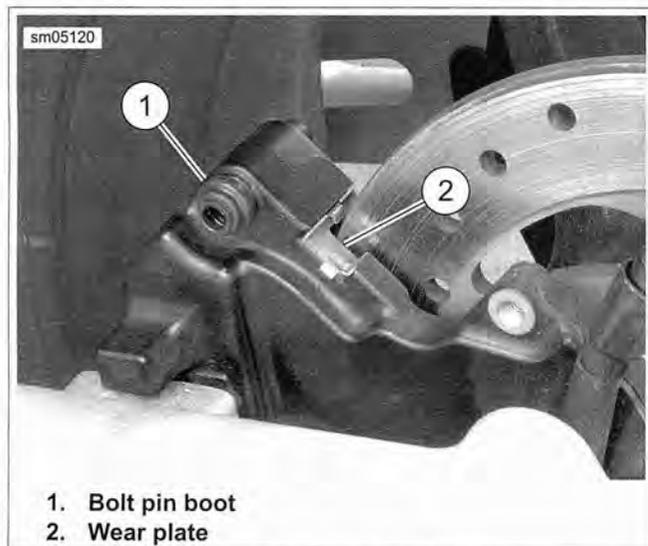
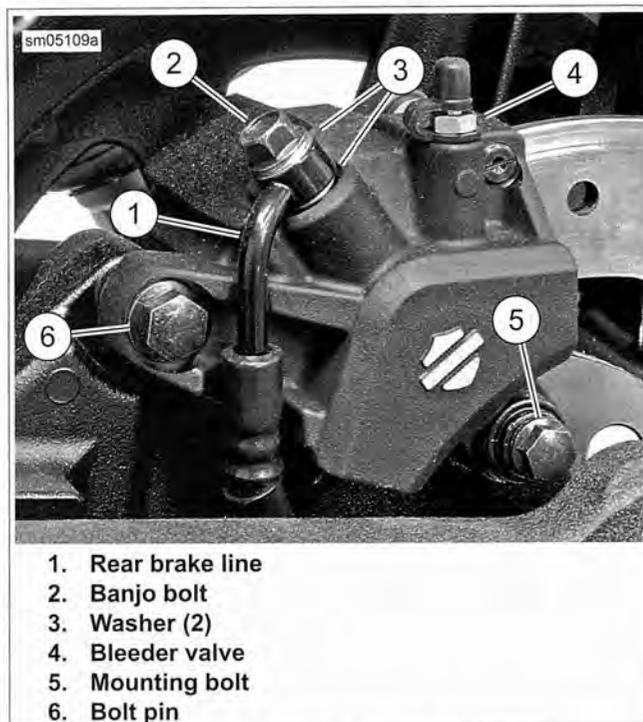
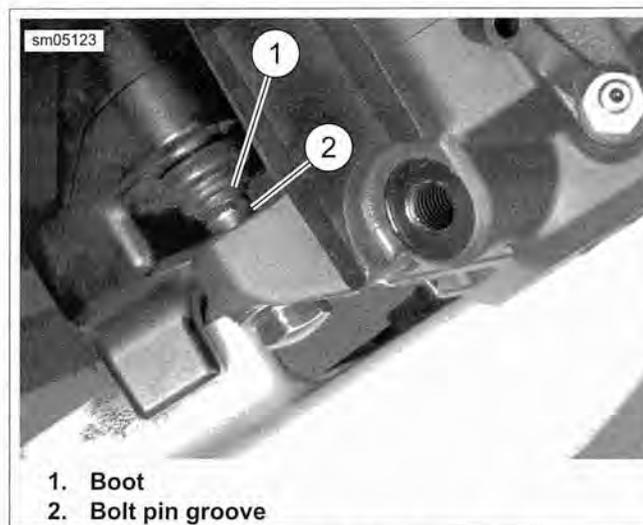

Figure 2-109. Caliper Mount
Figure 2-110. Rear Caliper Assembly
Figure 2-111. Bolt Pin and Boot
1. See Figure 2-109. If removed, install bolt pin boot (1).
3. If removed, install wear plate (2) on mounting bracket.
4. See Figure 2-110. Apply a drop of LOCTITE 272 Thread Lock to threads of bolt pin (6).
5. Place rear caliper assembly onto mounting bracket. Install bolt pin (6), being careful not to pinch or roll boot over.
6. See Figure 2-111. Verify that the lip of the boot (1) properly engages the groove (2) in the bolt pin.
8. See Figure 2-110. Install mounting bolt (5) and tighten to 14-18 ft-lbs (19.6-24.5 Nm).